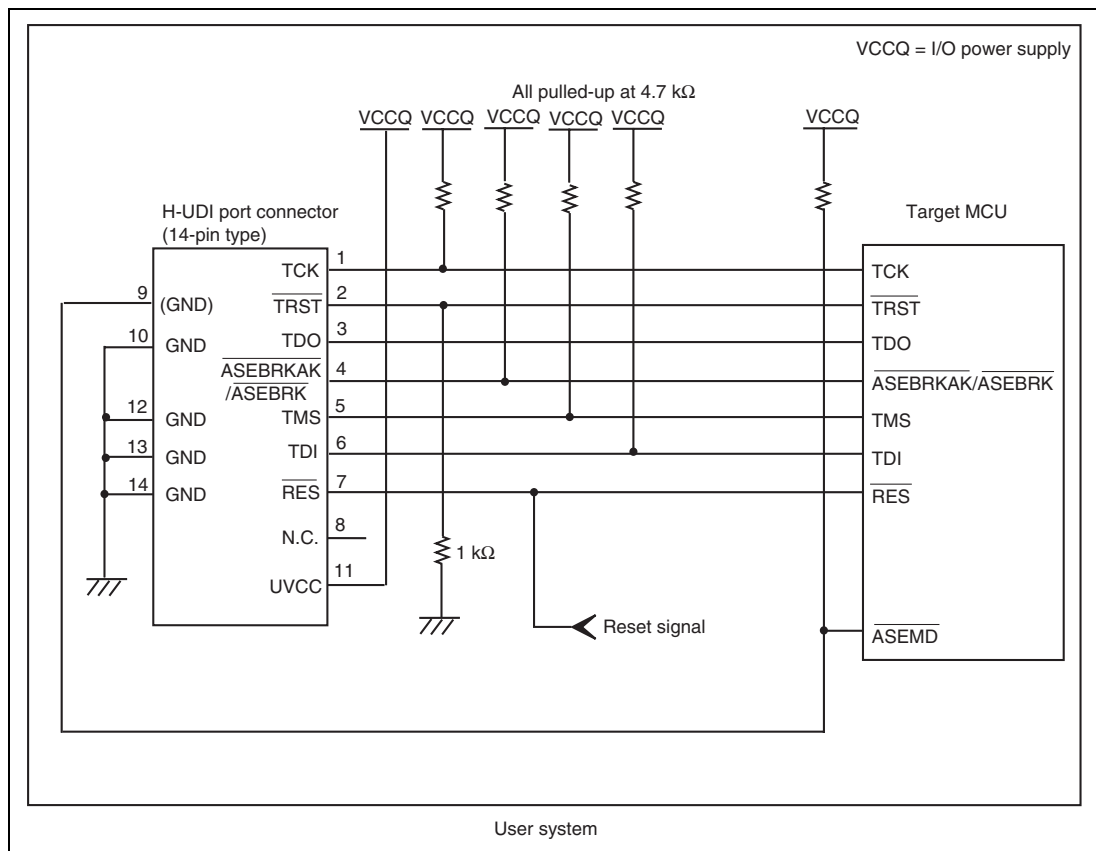

Figure 1.2 Recommended Circuit for Connection between the H-UDI Port Connector and MCU when the Emulator is in Use (14-Pin Type)
Figure 1.2 shows a recommended circuit for connection between the H-UDI port connector (14 pins) and the MCU when the emulator is in use.
- (1) When the emulator is used: ASEMD# = 0
- (2) When the emulator is not used: ASEMD# = 1Figure 1.2 shows an example of circuits that allow the ASEMD# pin to be GND (0) whenever the emulator is connected by using the user system interface cable. When the ASEMD# pin is changed by switches, etc., ground pin 9. Do not connect this pin to the ASEMD# pin.
6. The resistance value shown in figure 1.2 is for reference.
When the circuit is connected as shown in figure 1.2, the switches of the emulator are set as SW2 = 1 and SW3 = 1. For details, refer to section 3.8, Setting the DIP Switches, in the SuperH™ Family E10A-USB Emulator User's Manual.